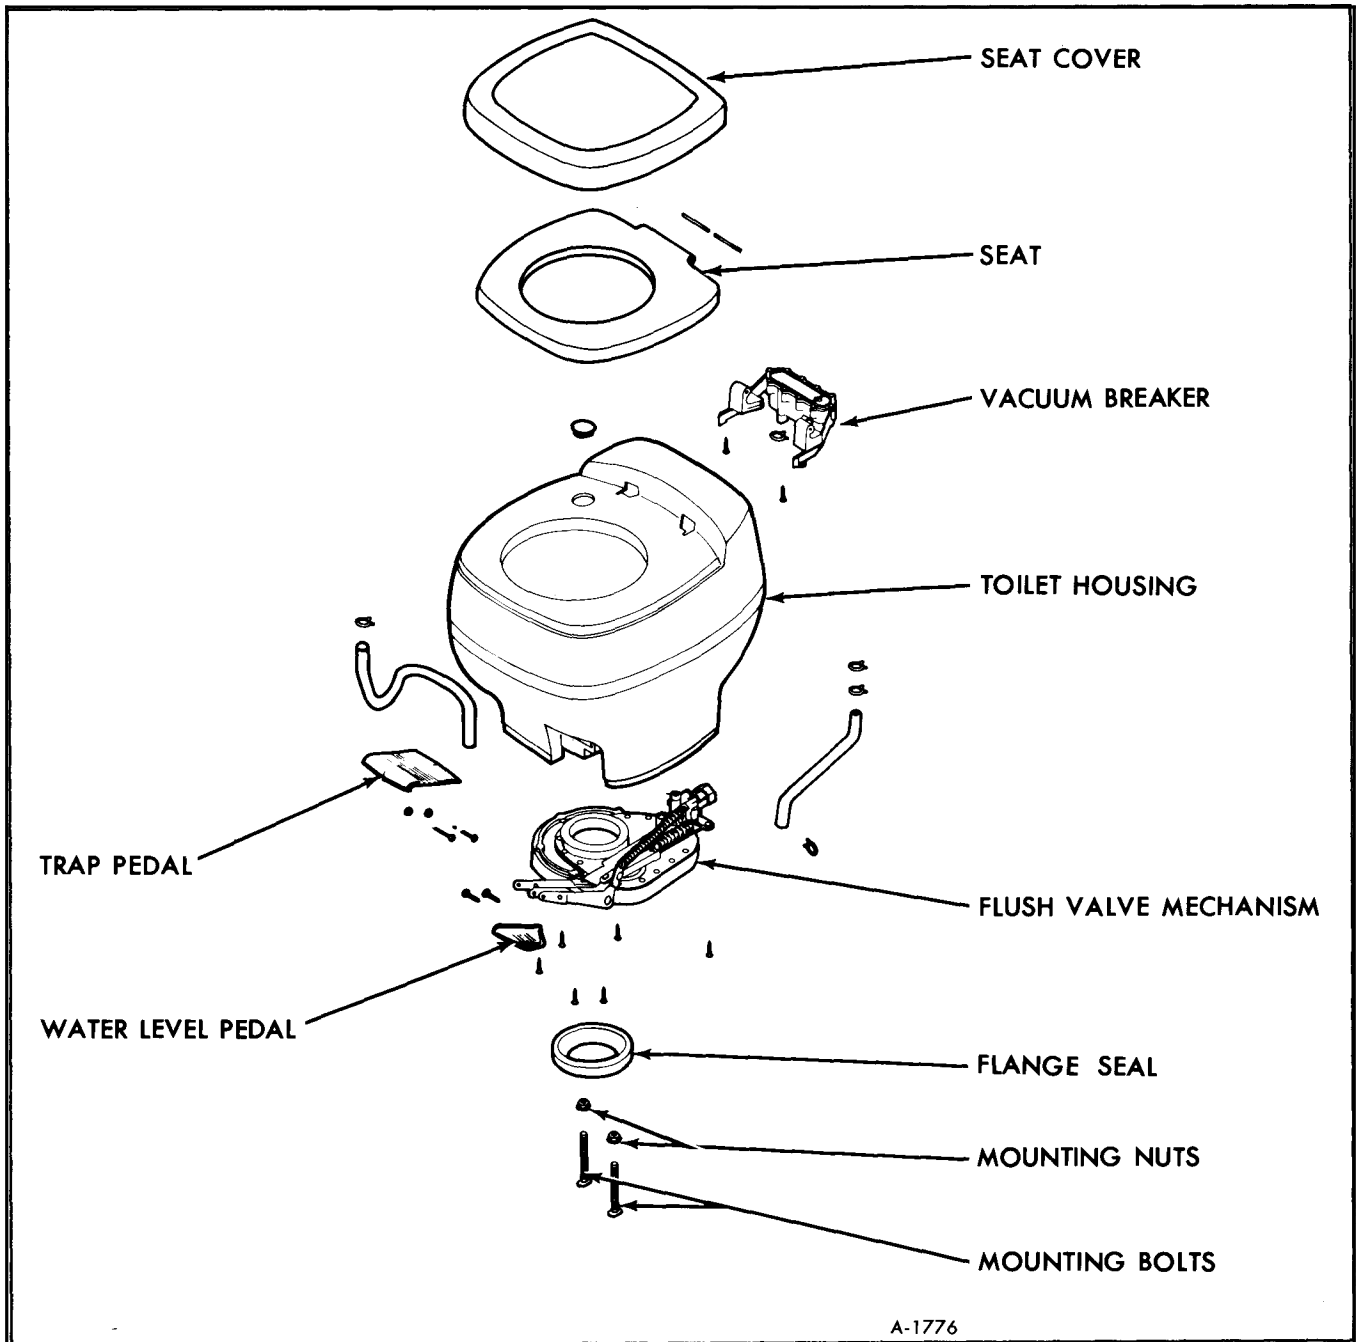

Figure 1—Standard Toilet Components
The standard toilet (figure 1) is a fresh water, permanently installed sanitation system. It uses a pressure flushing system. This scours the bowl with each flush. Water injection produces a "swirl effect"
The toilet disassembles into four main subassemblies (See figure 1).
1. Removal of the seat and cover assembly (figure 1):
2. Removal of the vacuum breaker (figure 1):
3. Removal of the mechanism assembly (figure 1):